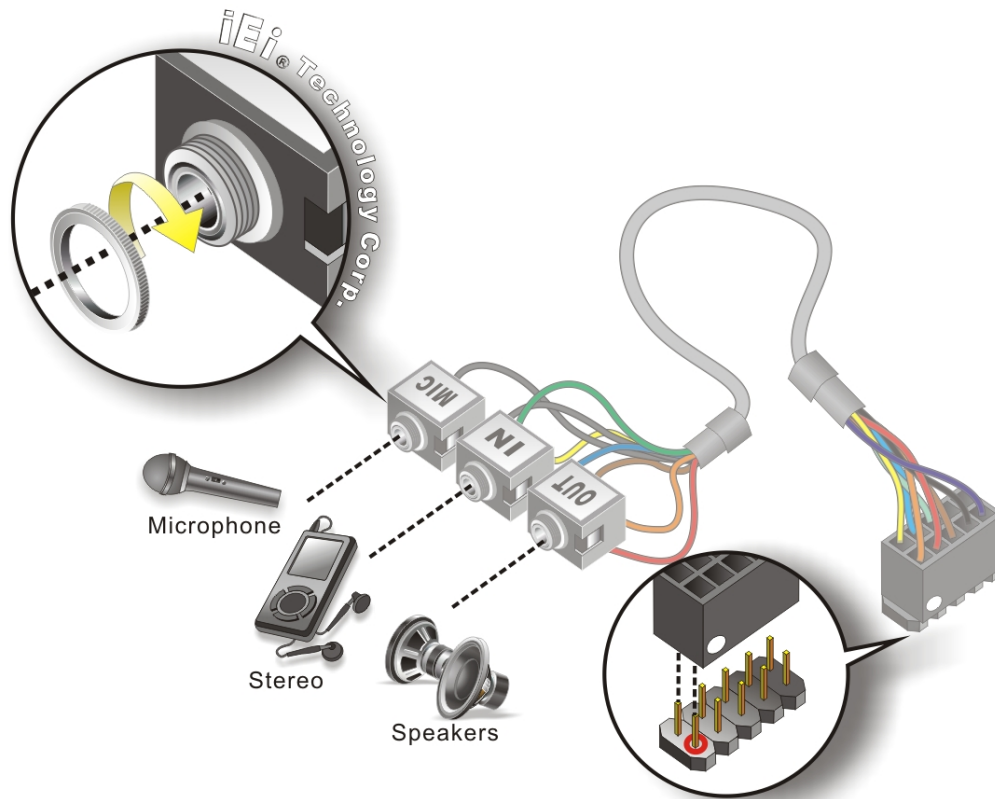

Figure 4-11: Audio Kit Cable Connection
Step 2: Align pin 1. Align pin 1 on the on-board connector with pin 1 on the audio kit connector. Pin 1 on the audio kit connector is indicated with a white dot. See Figure 4-11.